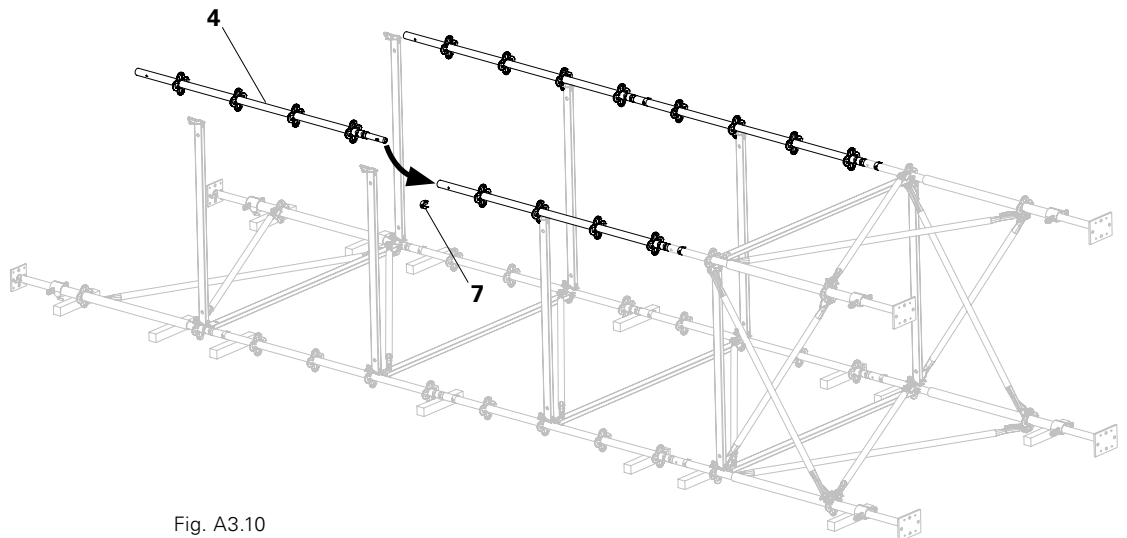

Fig. A3.10
8. Beginning on the head side, attach the Standards (4) for the second shear frame arrangement to the Ledgers and secure with Cotter Pins (7). (Fig. A3.10)